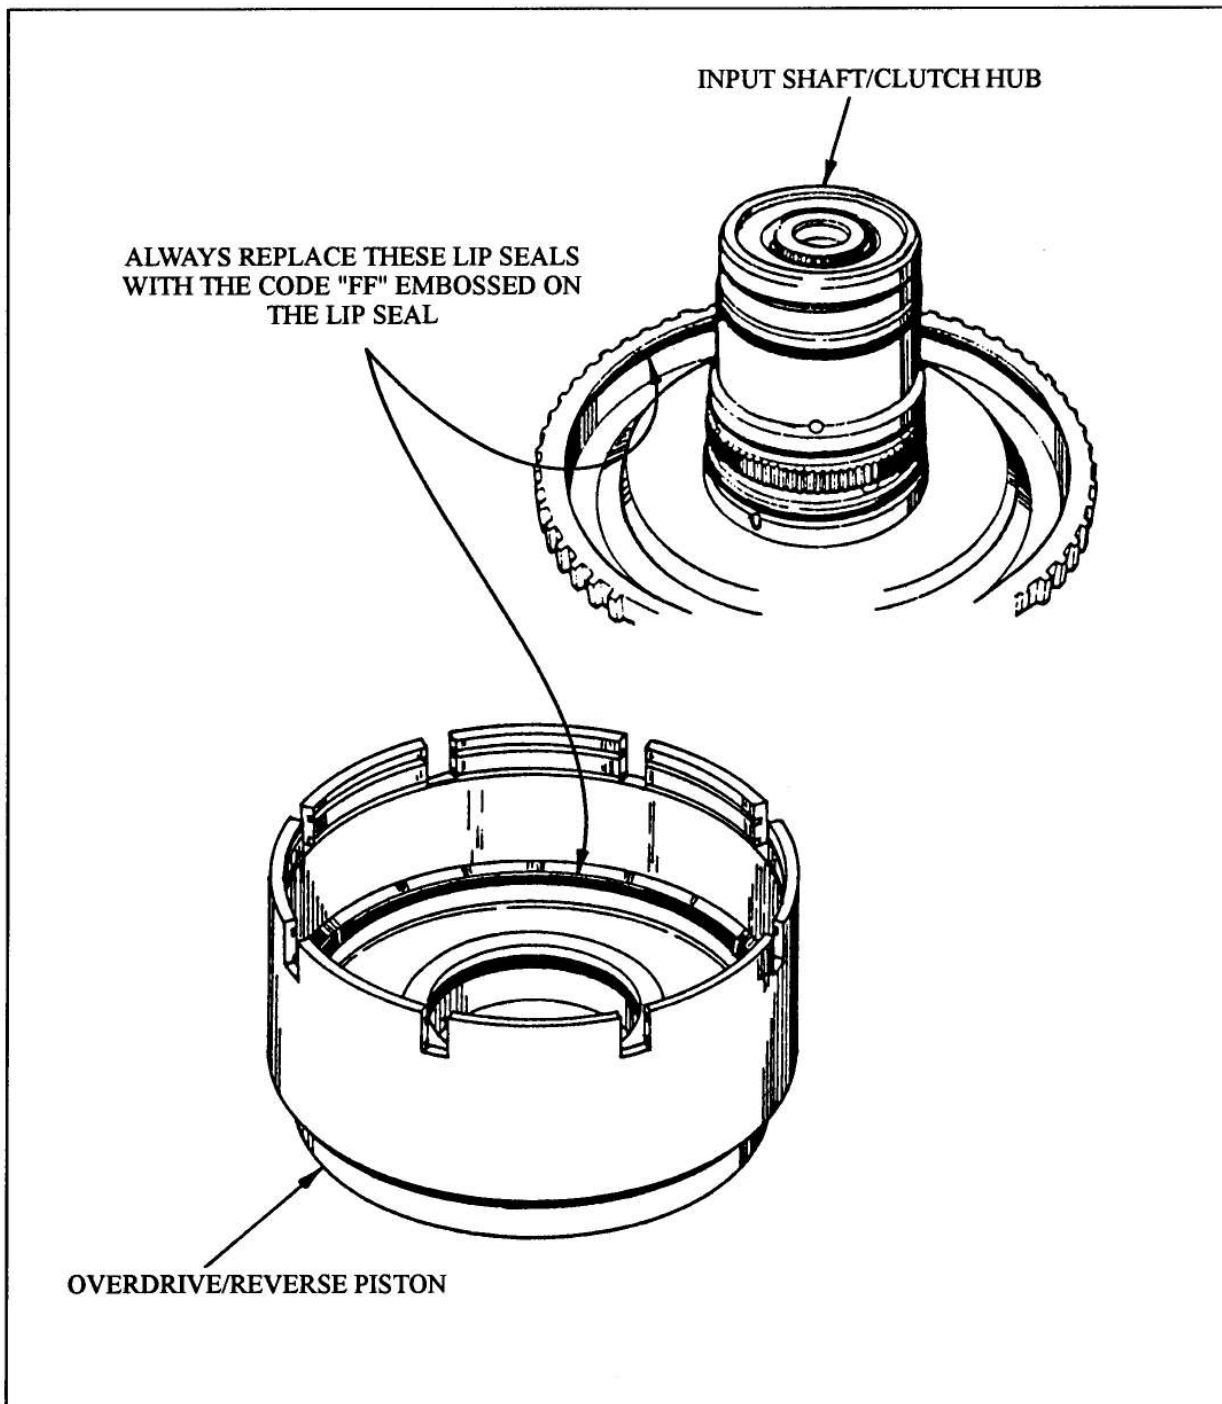

Figure 6
CHANGE: The lip seals in the Overdrive/Reverse Clutch Piston and the Input Shaft/Clutch Hub are now replaced with lip seals made of different material (See Figure 6).
- (1) **OD/REVERSE PISTON LIP SEAL** - No dimensional changes, but the material changes, and the new lip seals can be identified by the code "FF" embossed into the seal. The old lip seal is embossed with the code "IPC", and should not be used (See Figure 6).
- (2) **INPUT CLUTCH HUB OUTER LIP SEAL** - No dimensional changes, but the material changes, and the new lip seals can be identified by the code "FF" embossed into the seal. The old lip seal is embossed with the code "IPC", and should not be used (See Figure 6).